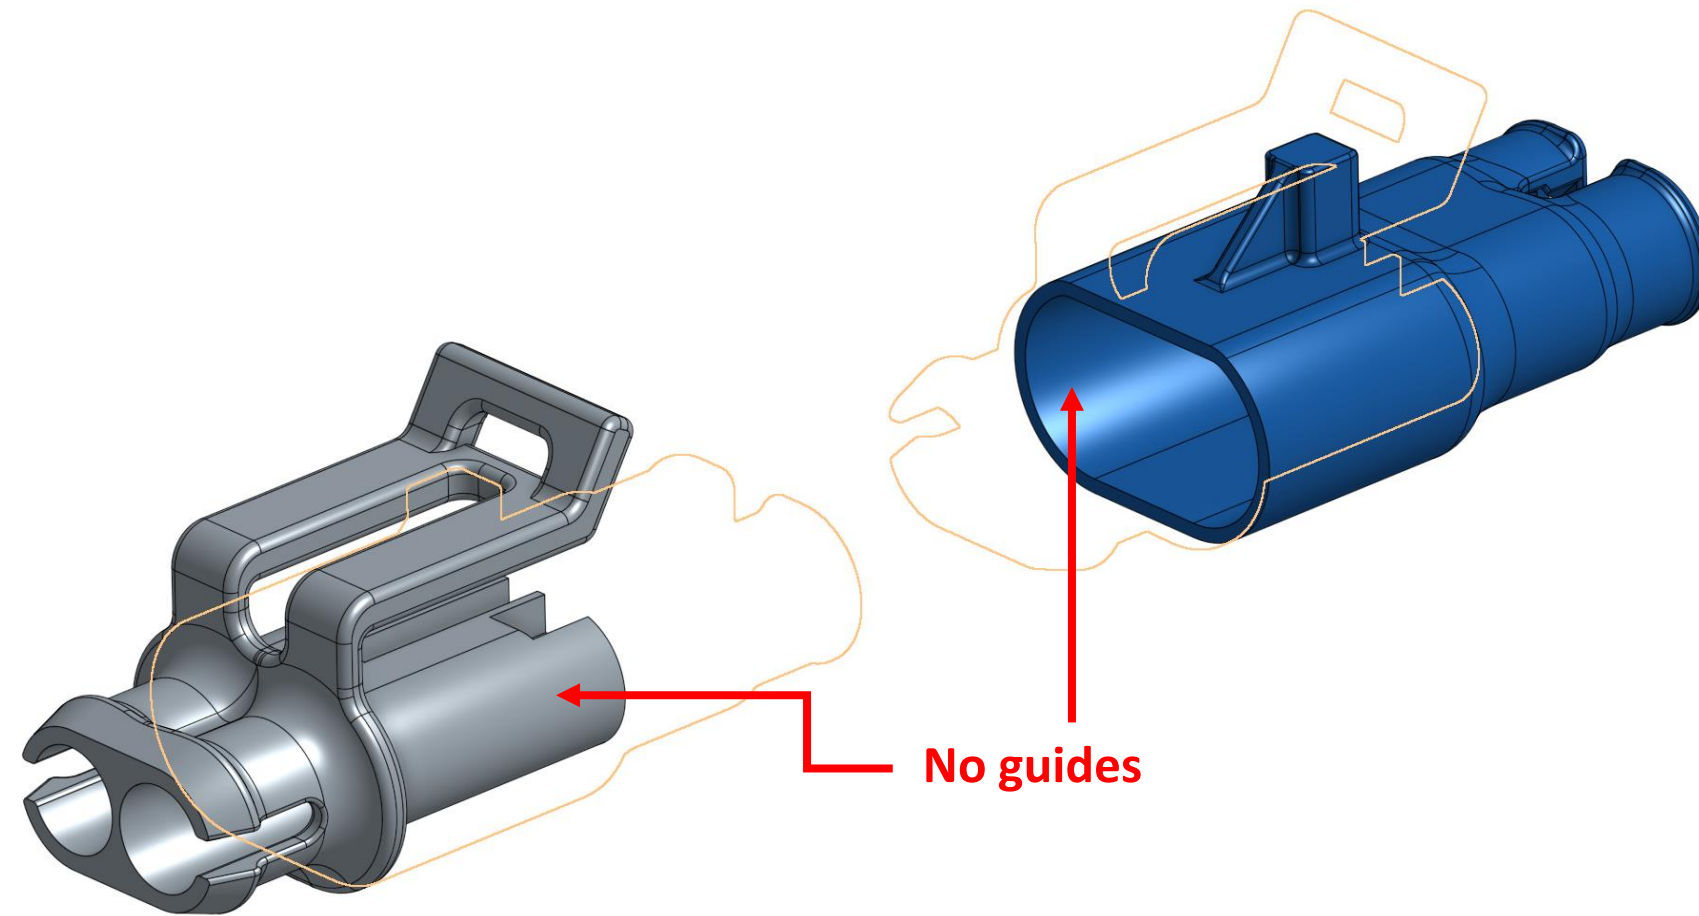

Fig. 1 Iteration 1
- In Iteration 1, the clip catch on the female component required a large protrusion to meet the clip. **(Fig. 1)**